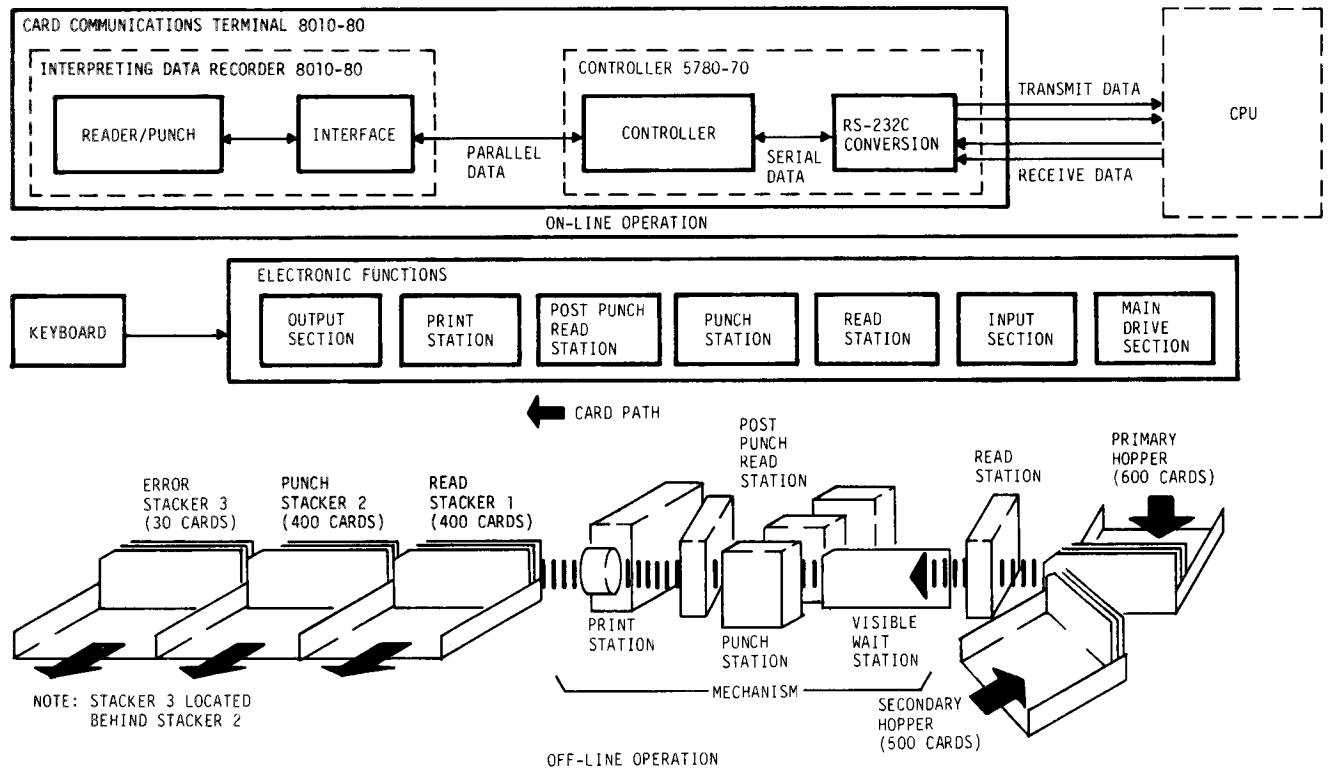

Figure 2-2. Card Reader/Punch Functional Diagram
a. Card Reader/Punch. The unit (fig. 2-2) features a smart controller which monitors all traffic coming from a host or remote communications subsystem through the CPU and controls the reading and punching of card data, using an interpreting data recorder (IDR).
(1) The smart controller receives card data through RS-232-C interface boards, processes the data, feeds the data to the IDR for punching, and then transmits back to the host CPU for local processing.
(2) The IDR consists of a mechanical device, an electronics cabinet that houses power supplies, printed wiring boards, and communications interfaces. The IDR may be operated off line by keyboard and operator panel to manually punch, read, interpret, verify or reproduce punched cards. On line, the IDR operates only on command from the smart controller.